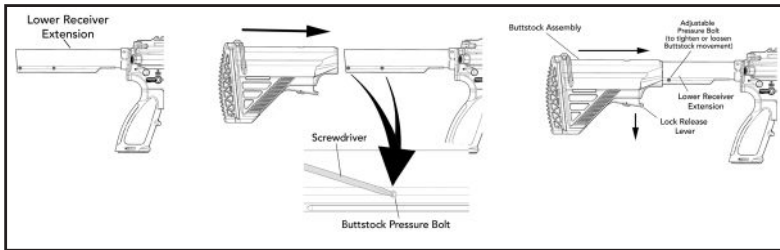

Fig. 53 – Buttstock reassembly
- b. Two small set screws are located on the bottom of the receiver extension (buffer tube). These set screws are provided to eliminate any play that may develop between the buttstock and the extension. The left hand side of the set screw features a detent surface that engages the buttstock. The right hand surface features a cut to accommodate a small straight slot screwdriver. Rotating the set screws clockwise will tighten the detents to the buttstock; rotating the setscrew counter clockwise will loosen the buttstock. Using a straight slot screwdriver, rotate the set screws clockwise using quarter turns and adjust until the detents engage the buttstock but do not hinder removal or installation (Fig. 53)